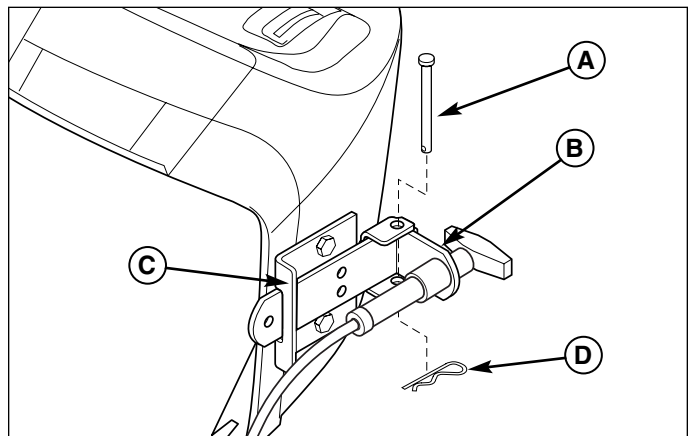

Figure 17. Install Remote Deflector Control
1. Using the template included in the back of this manual, drill two 9/32" holes in the dashboard to mount the remote deflector control bracket (C, Figure 17). See template at the back of this book for instructions.
1. Insert the deflector control handle (B, Figure 17) into the mounting bracket (C).
3. Secure the handle (B, Figure 17) using a clevis pin (A) and hair pin clip (D).